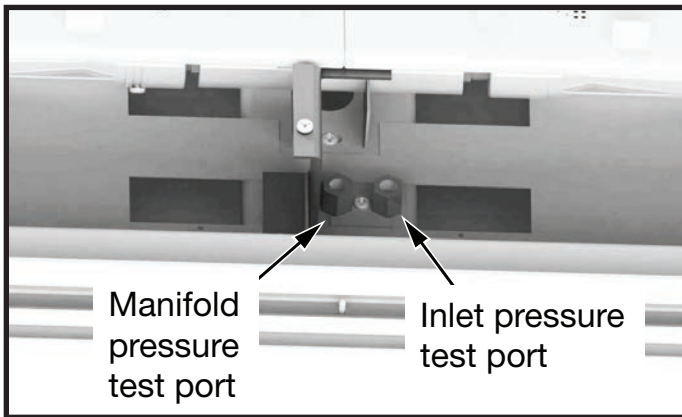

Figure 47: Gas pressure test ports.
2. Remove the plug from the pressure test port using a 3/16" hex key. The pressure test ports are located next to the center tray leg opposite from the pilot (Figure 47).